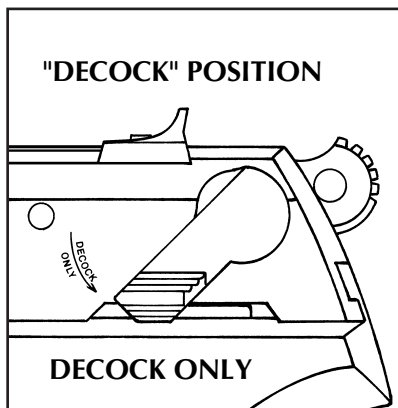

FIGURE 1
To decock the pistol, **point the pistol in a safe direction.** Depress the decocking lever until the hammer drops. The decocking lever first moves the firing pin into the slide far enough so that the rear end of the firing pin cannot be struck by the hammer. Only then will continued depression of the decocking lever safely drop the hammer to an uncocked position (see Figure 1, p. 7). To return the pistol to firing condition, simply release the decocking lever (see Figure 2, p. 7). It will spring upward to its original position. The pistol is then ready to fire by a "double-action" pull of the trigger. The hammer can also be manually cocked immediately before shooting a "single-action" firing. The trigger pull is both shorter and relatively lighter in the "single-action" mode, which is preferred for more accurate shooting.
1. The muzzle of the pistol must be pointing in a safe direction at all times, and fingers should be outside of the trigger guard. Decock the pistol by depressing the decocking lever until the hammer drops (See Figure 1, p. 7).